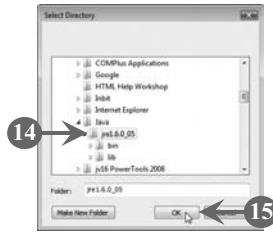

FIGURE 1.12
The **Select Directory** dialog box opens (**Figure 1.12**).
14. *Browse* and *select* a Java Runtime Environment (JRE) folder present on your computer (Figure 1.12). In our case, we have selected the **jre1.6.0\_05** folder.
15. Click the **OK** button to close the **Select Directory** dialog box, as shown in Figure 1.12: